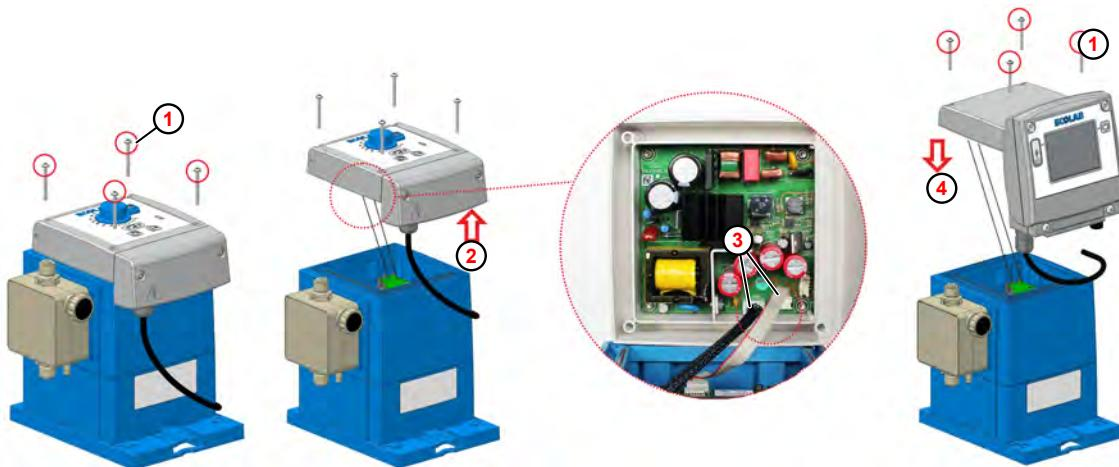

Fig. 33: Upgrade to EcoAdd
- ① Fixing screw
- ② Remove the control unit
- ③ Plug
- ④ Place the control unit
**1.** Loosen the screws ( Fig. 33 , ① ) on the **EcoUp** control unit using a Torx spanner (TX25).